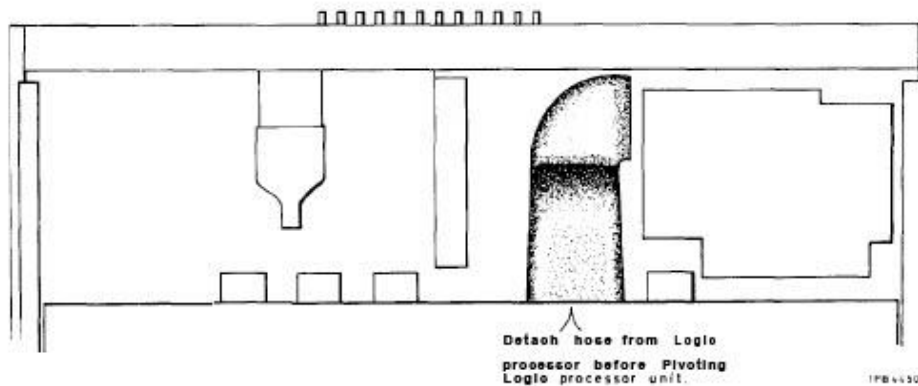

Fig. 2 Removal of air duet
- (6) Detach the air duct from the rear of the logic processor unit shown in Fig. 2 below,